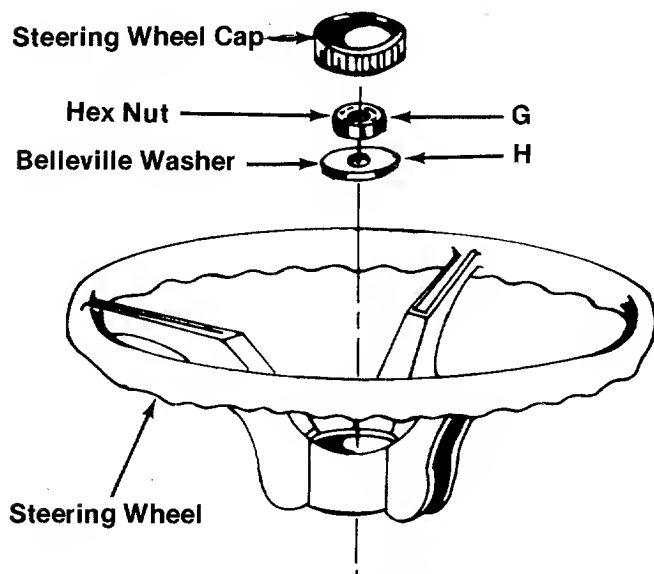

**FIGURE 1. HARDWARE SUPPLIED**
B. Place seat on spring and secure with lockwasher (A) and hex nut (B). See figures 1 and 3.